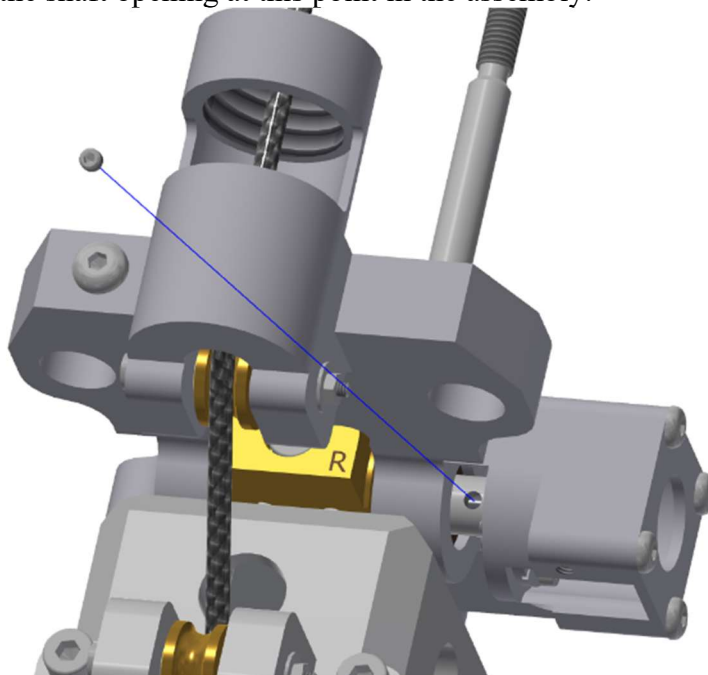

Figure 4-54. Loosely install set-screw into O.C pin
4.3.28 Loosely install the M3 X 0.5 X 3 mm SSS cone point set screw into the Neck Occipital Condyle Pin (474-2340) (Figure 4-54). The set-screw should not enter the shaft opening at this point in the assembly.